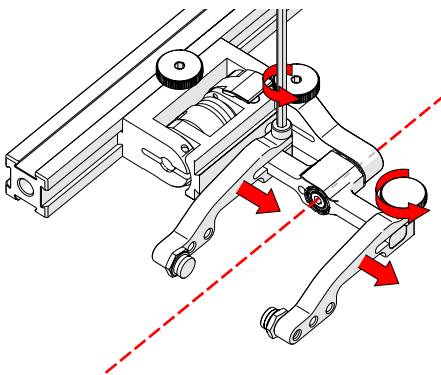

Fig. 80 - Adjust probe holder arms
5. Loosen the arm clamp screw and the probe holder arm adjustment knob (Fig. 80), and remove the outer probe holder arm from the yoke.
6. Adjust the inner probe holder arm as required to best centre the probe on the yoke's pivot axis (Fig. 80).
TIP: The probe holder yoke can accommodate many different probe and wedge sizes of varying widths. It is best to centre the wedge with the yoke's pivot axis to reduce wedge tipping when scanning. Position the inner probe holder arm accordingly with the centre of the yoke (Fig. 80).